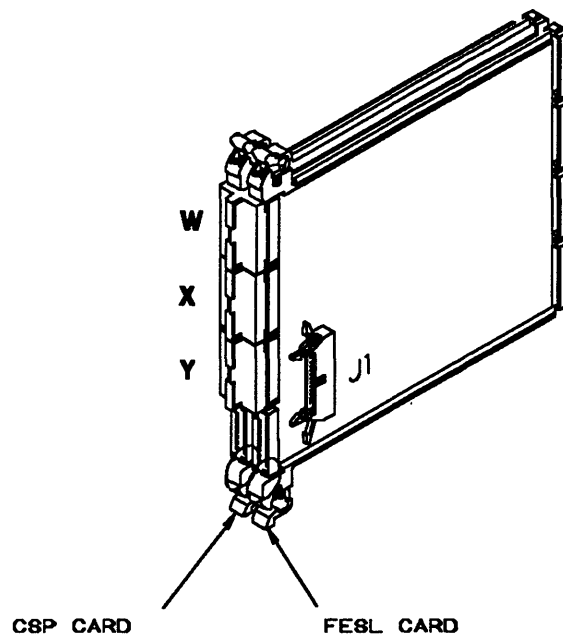

Figure 5-58. CSP and FESL Cards
5. Referring to Figure 5-58 on page 5-66, exchange the CSP card as follows:
5. Referring to Figure 5-58, exchange the FESL card as follows: